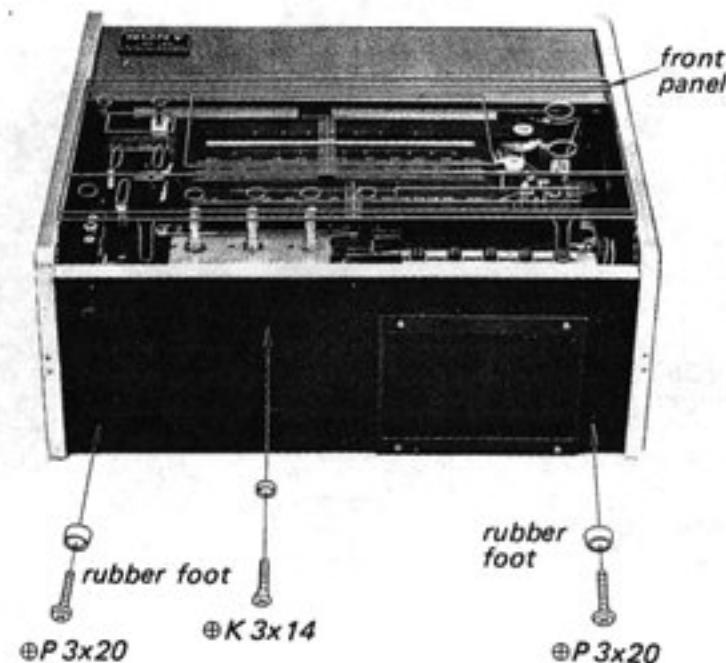

Fig. 2-4
8. Now, the front panel is removable as shown in Fig. 2-4.
9. Remove the three screws and two rubber foots as shown in Fig. 2-4.